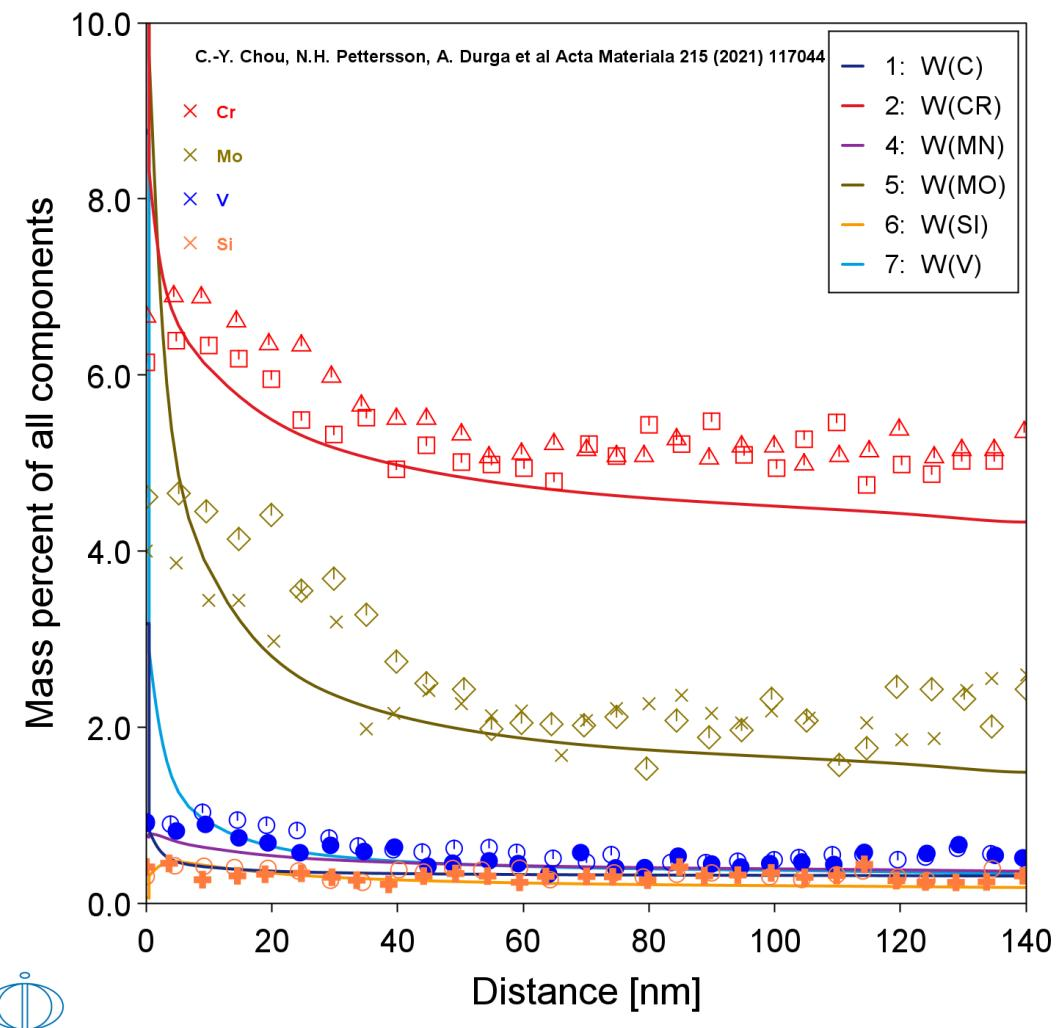

Figure 39: The simulated segregation profile with overlaid experimental STEM-EDS line scans from C.-Y. Chou et al. [2021Cho].
The calculated segregation profiles are finally compared with the STEM-EDS line scans as shown in Figure 39.
- **Plot results:** After completing the set up and performing the calculation, to view the matching name of the node on tab(s) in the **Visualizations** window, click a **Plot Renderer** node in the **Project** window or click the tabs individually in the **Visualizations** window. See Figure 39.